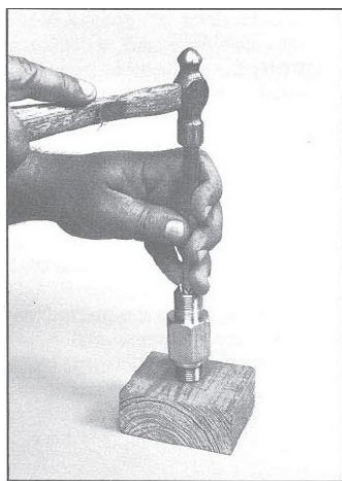

Figure 2:
2. Fill the cavity with the Grafoil rings, tamping them into the cavity with a packing tool or piece of appropriate size copper tubing as shown in Figure 2, until the cavity is full with a couple threads showing.